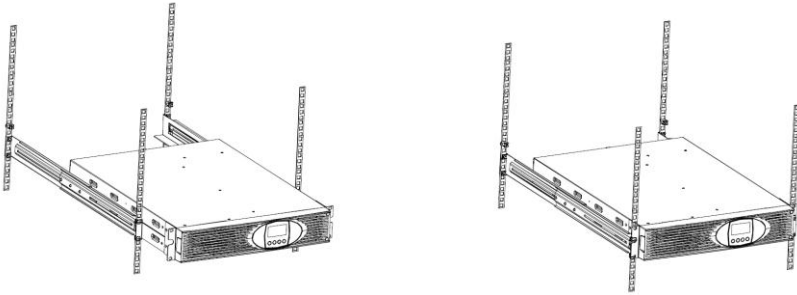

Figure 6: Fastening in rack
8. Attach the mounting bracket of the UPS system to the rack (see Figure 6).